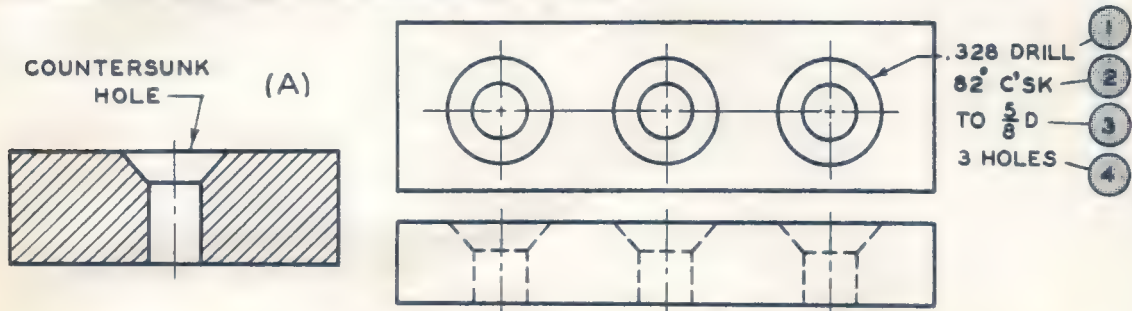

FIG. 51 DIMENSIONING COUNTERSUNK HOLES
A countersunk hole (Fig. 51 at (A)) is a cone-shaped recess machined in a part to receive a cone-shaped flat head screw or bolt.